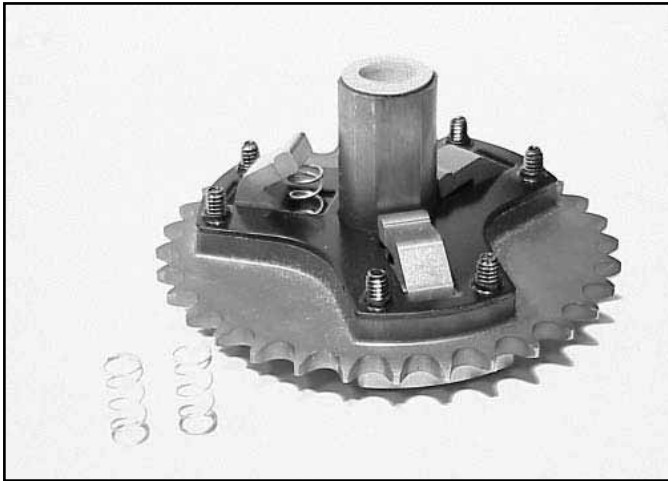

Fig 185
7. Remove the 3 (per gear) compression springs from under the pawls and set aside (Fig. 185).